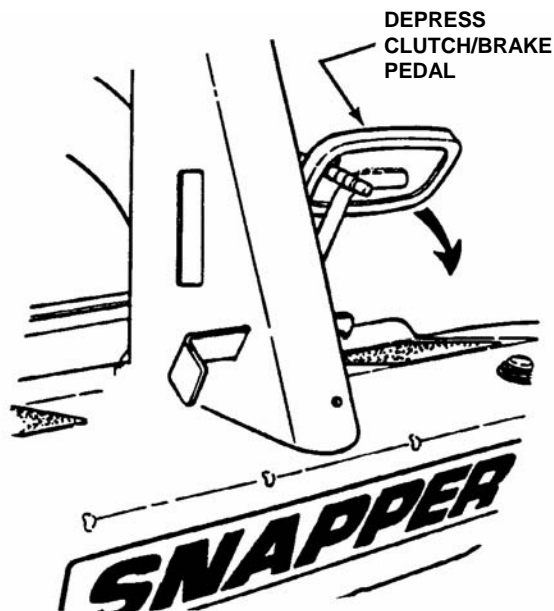

FIGURE 2.11
2. Depress clutch/brake pedal. See Figure 2.11.